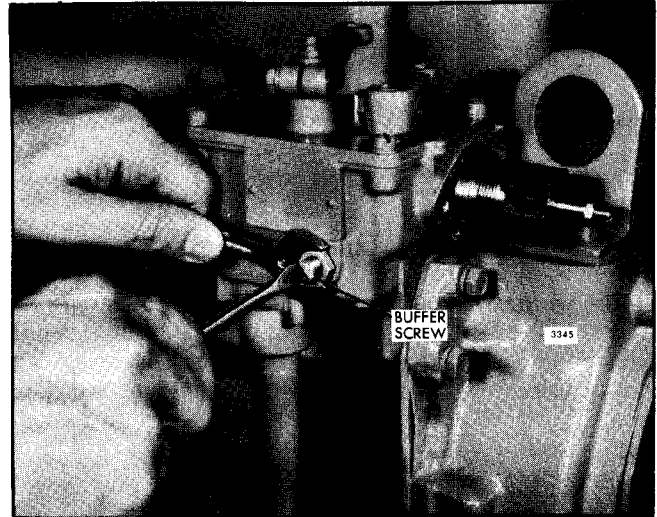

Fig. 9 - Adjusting the Buffer Screw
1. With the engine running at normal operating temperature, loosen the locknut and turn the buffer screw in so that it contacts the differential lever as lightly as possible and still eliminates engine roll (Fig. 9).
3. Start the engine and loosen the idle speed adjusting screw locknut. Then adjust the idle screw to obtain the desired idle speed (Fig. 9). Hold the screw and tighten the locknut to hold the adjustment.